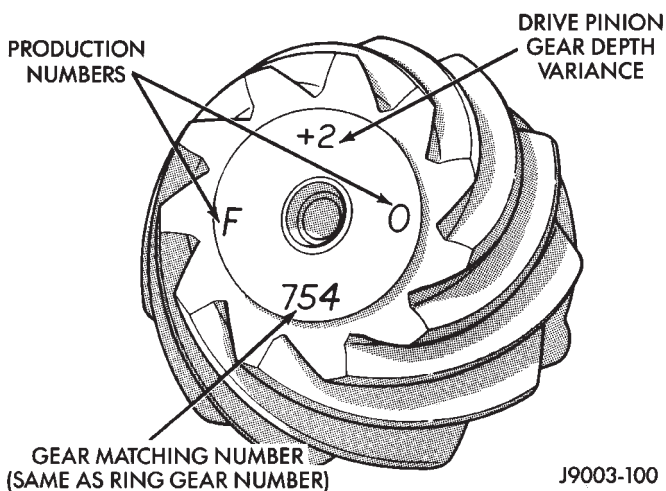

Fig. 55 Pinion Gear ID Numbers
gear are etched into the face of each gear (Fig. 55). A plus (+) number, minus (–) number or zero (0) is etched into the face of the pinion gear. This number is the amount (in thousandths of an inch) the depth varies from the standard depth setting of a pinion etched with a (0). The standard setting from the center line of the ring gear to the back face of the pinion is 127.00 mm (5.000 in.) for the 248 RBI axle. The standard setting for the 267 RBI axle is 136.525 (5.375 in.). The standard depth provides the best teeth contact pattern. Refer to Backlash and Contact Pattern Analysis Paragraph in this section for additional information.
(9) Select a shim equal to the dial indicator reading plus the drive pinion gear depth variance number etched in the face of the pinion gear (Fig. 55) using the opposite sign on the variance number. For